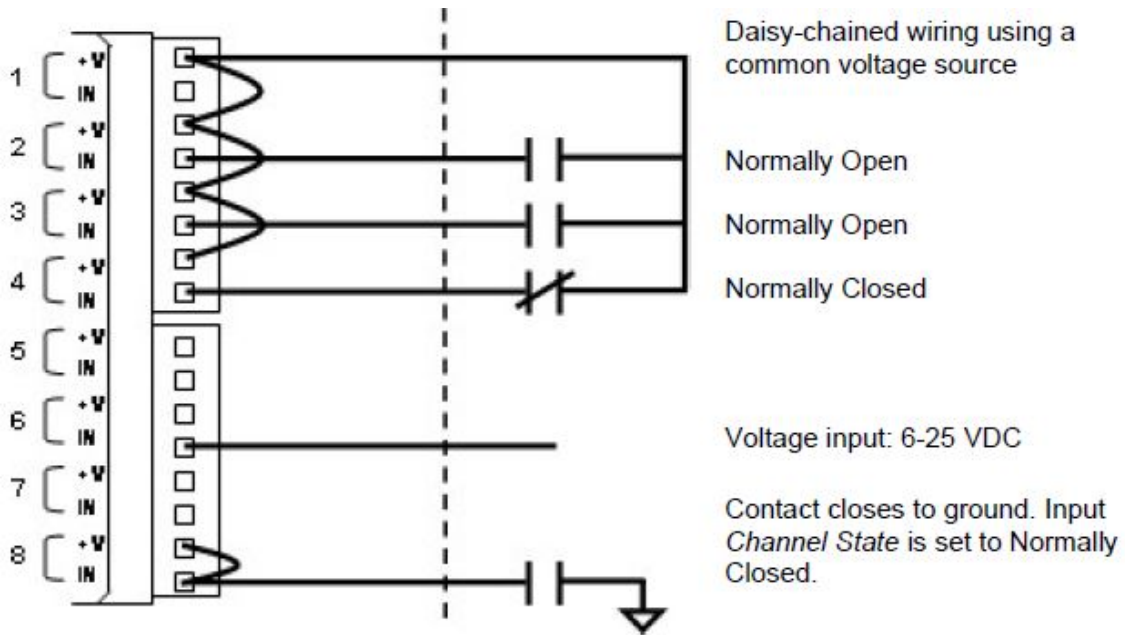

Figure 9: Daisy-Chained – Direct Voltage Input and Contact to Ground Wiring
Note that each connector has two terminals, (IN) and (+V). If all of your inputs are originating from a location near each other, you can wire all of the (+V) signals together on the EliteIQ connector and take a single (IN) signal to your sensors, as shown in Figure 9.